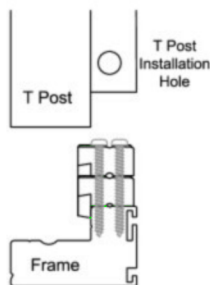

Fig. 7.2
- Using (2) #6 x 1 3/4" T Post block screws, attach the blocks to each frame. Do not completely tighten the screws down, only make them snug. This will allow some side to side adjustment of the T Post. (See Fig. 7.2)